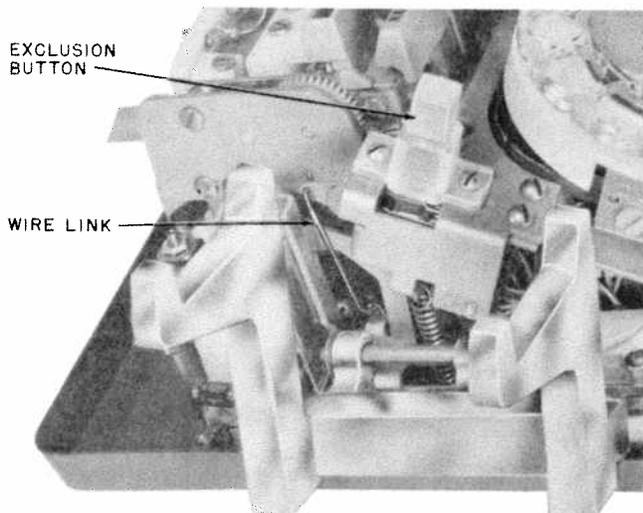

Fig. 5—Exclusion Switch Assembly
- (1) Remove housing and 8C dial.
- (2) Attach exclusion switch assembly to dial adapter with two screws provided (Fig. 5).
- (3) Dress exclusion switch leads along left side of 41-type dial and between control relay and switch hook assembly so that terminal board is in position at rear of set.
- (4) Connect wire link to exclusion switch assembly by placing end of wire link having two 90 degree bends into hole provided in switch assembly (Fig. 5). Start wire link from left side of assembly.
- (1) Remove dial as shown in 4.06.
- (2) Disconnect spade-tipped dial leads.
(3) Loosen two screws holding dial to adapter and remove dial.
(4) Secure replacement dial on adapter making sure that dial is properly positioned.
(5) Connect dial leads.
(6) On sets with exclusion, start wire link from exclusion switch into hole on switch hook assembly (Fig. 5).
(7) Slide slots of dial adapter under dial mounting screws.
(8) Move dial to right as far as possible and tighten screws.
(9) Check operation of 8C dial and exclusion switch, if provided.